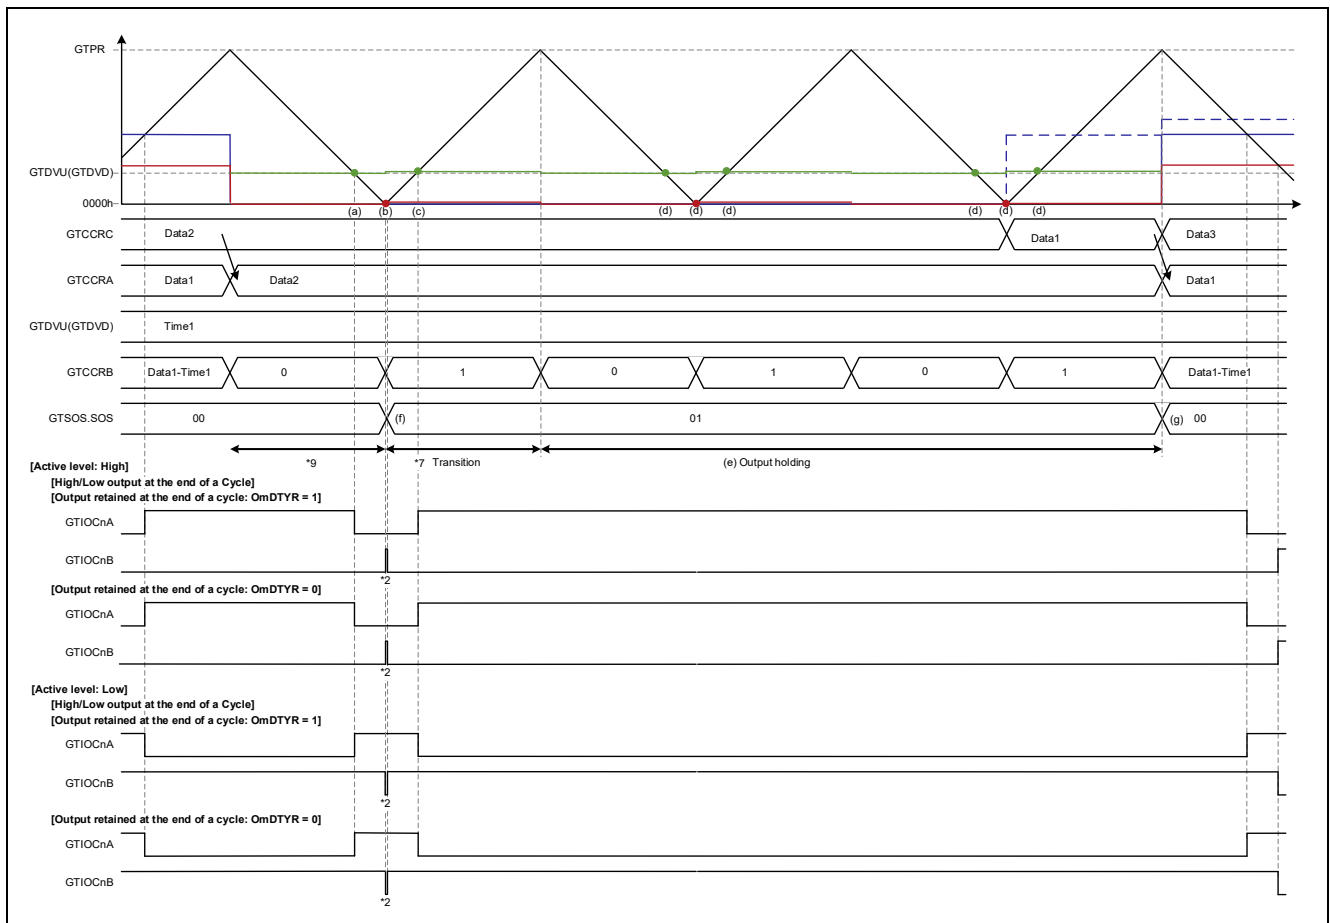

Figure 1.95 Triangle-Wave PWM Mode 2 Operation Example
- Operation Example 5: Figure 1.95 Triangle-Wave PWM Mode 2, Abnormal Value (Transfer at Crest)/Normal Value (Transfer at Crest), cautions 2, 7, and 9
Figure 1.95 shows an operation example of transfer of 0000 0000h to GTCCRA via buffer transfer at crest and return via buffer transfer at crest of a normal value in triangle-wave PWM mode 2